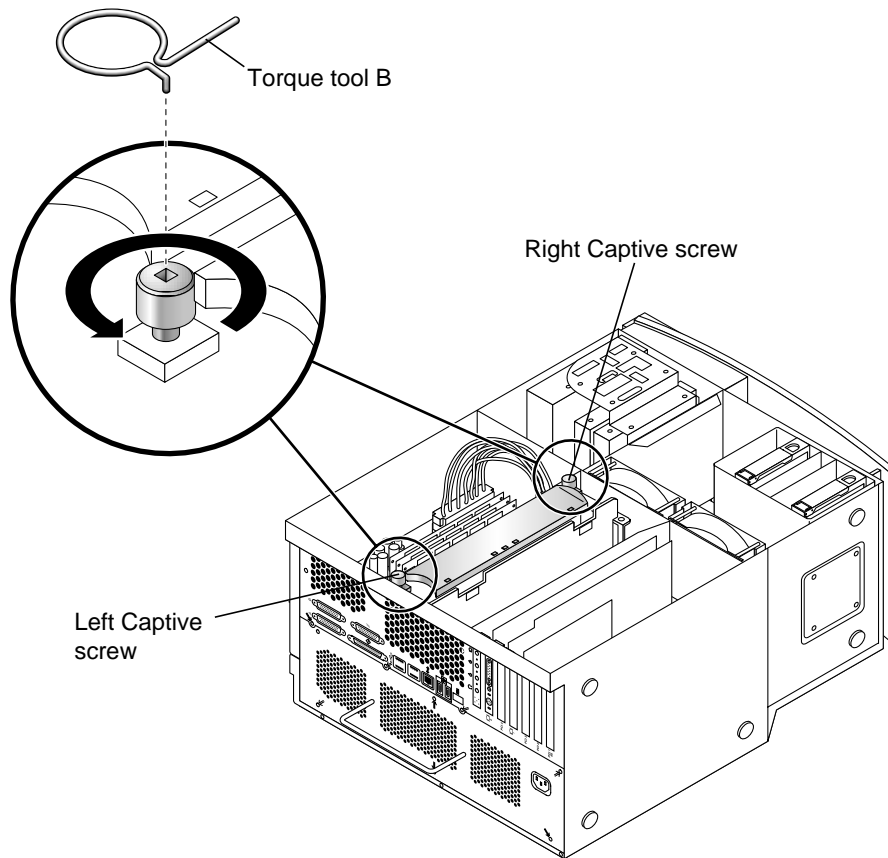

FIGURE 9 Using Torque Tool B to remove the CPU Module
a. Remove the cover for the shroud (see FIGURE 9).
b. Alternately rotate the left and right captive screws one turn counterclockwise until the screws are free of the threaded inserts (see FIGURE 9).